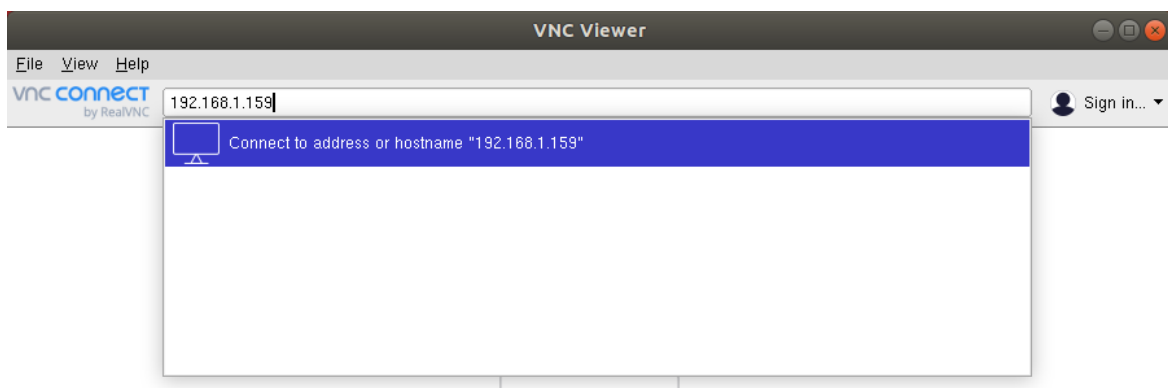

Fig. 2-3 Opening VNC Software
2. Open the software "VNC Viewer" on the remote port, as shown in Figure 2-3, then enter the IP address of the robot in the input box, and press Enter to connect.